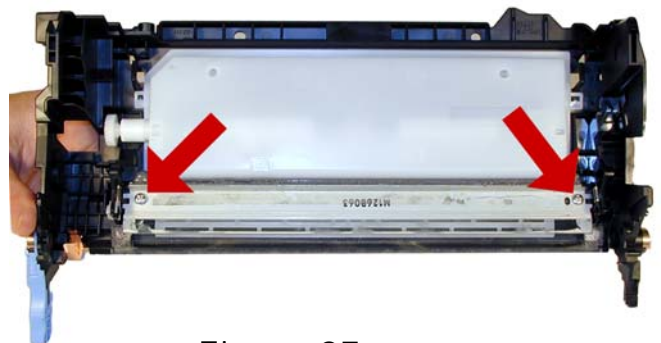

Figure 27
13) Remove both screws from the wiper blade. See **Figure 27**